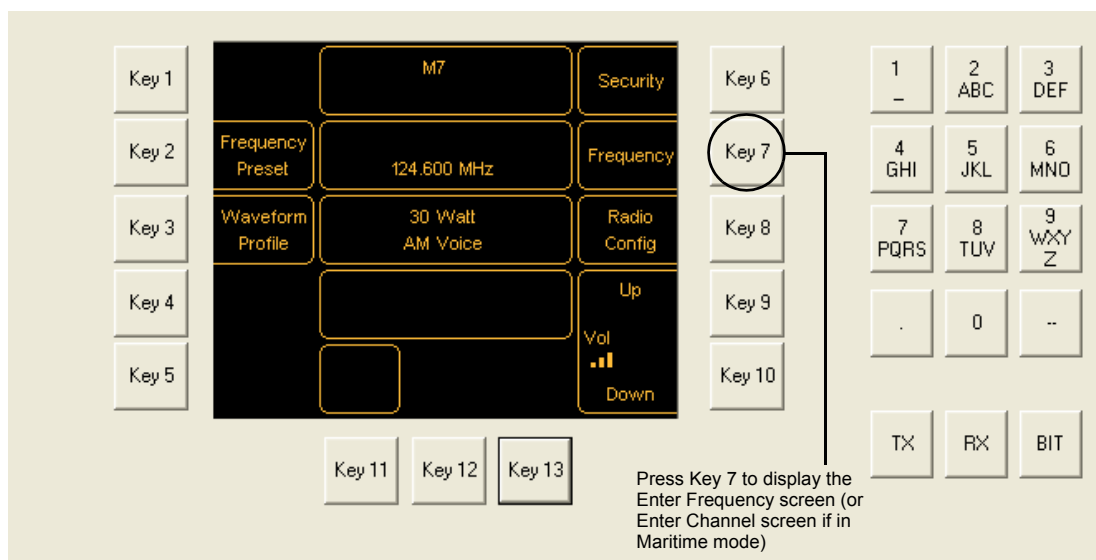
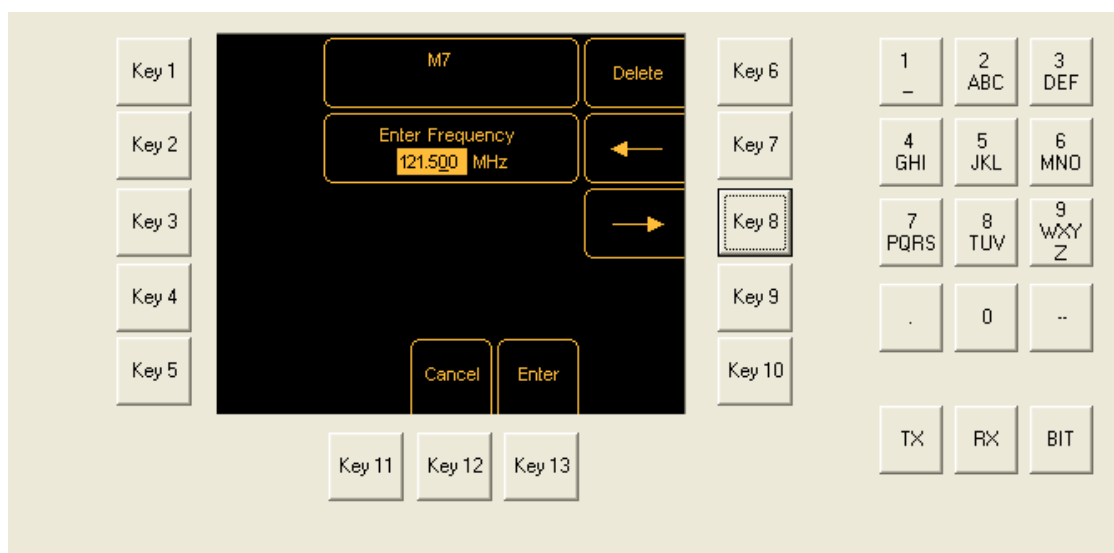
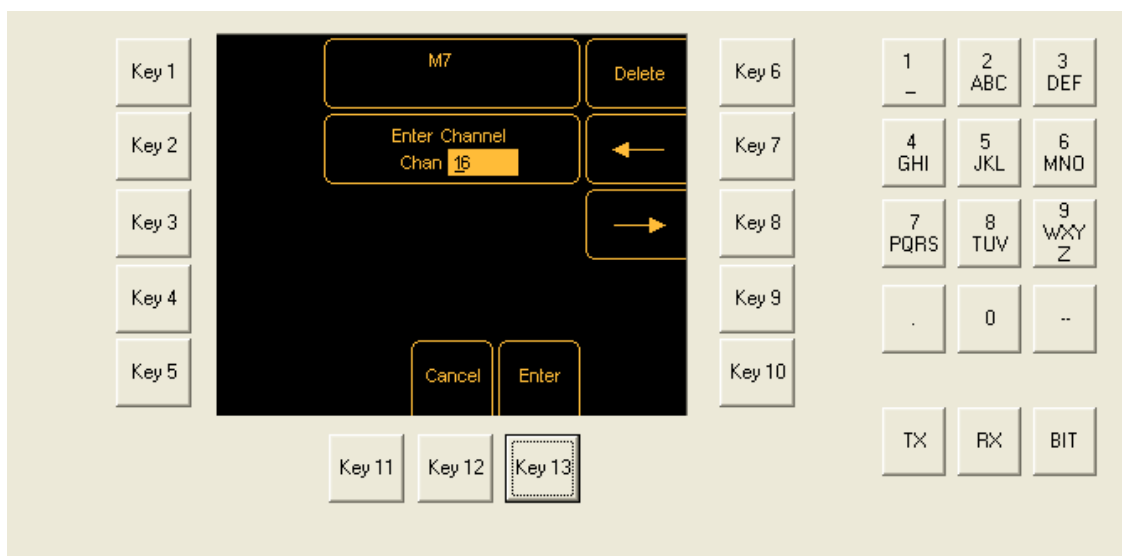

Fig 3-14 Select Frequency from Home Screen
Fig 3-15 Enter Frequency Screen
Fig 3-16 Enter Channel Screen (Maritime Mode Only)
- (1) At the Home screen (Fig 3-14) press Key 7 to display either the Enter Frequency screen (Fig 3-15) or if in Maritime mode, the Enter Channel screen (Fig 3-16).
- (2) See the Notes on page 3-13. At the Enter Frequency screen (Fig 3-15) enter the required frequency using the alphanumeric keys, or if Maritime mode is selected enter the required channel at the Enter Channel screen (Fig 3-16).